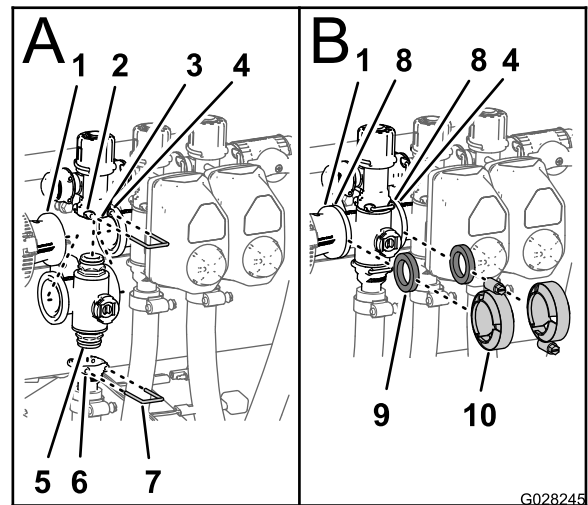

Figure 88
1. Insert the upper endcap fitting of the manifold valve into the bypass fitting (A of Figure 88).
2. Secure the endcap fitting to the bypass fitting by inserting a retainer into the socket of the bypass fitting (A of Figure 88).
3. Assemble the outlet fitting onto the lower endcap fitting of the manifold valve (A of Figure 88).
4. Secure the endcap fitting to the outlet fitting by inserting a retainer into the socket of the outlet fitting (A of Figure 88)
5. Align a 1 gasket between the flanges of the reducer coupling and the section valve manifold (B of Figure 88).
6. Assemble the reducer coupling, gasket, and section valve manifold with a clamp tightened hand tight (B of Figure 88).
7. If installing the 2 left most section valves, align a 1 gasket between the flanges of the 2 adjacent section valve manifolds (B of Figure 88).
8. Assemble the and 2 adjacent section valve manifolds and gasket with a clamp tightened hand tight (B of Figure 88).